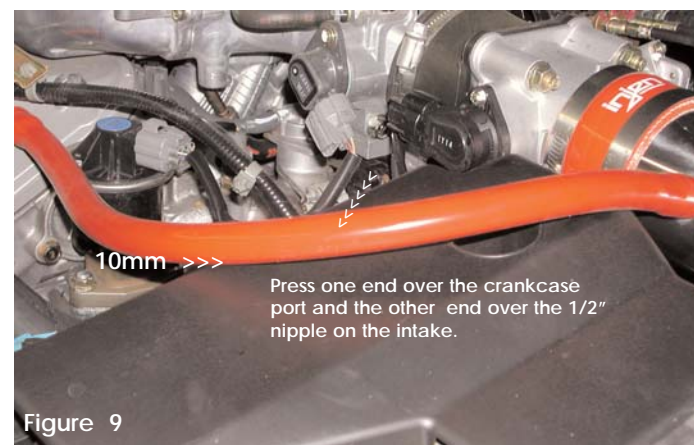

Figure 9
- 7 Press one end of the 20" 10mm hose over the crankcase port and press the other end over the 1/2" nipple on the intake and use the stock clamps. (See fig. 9)